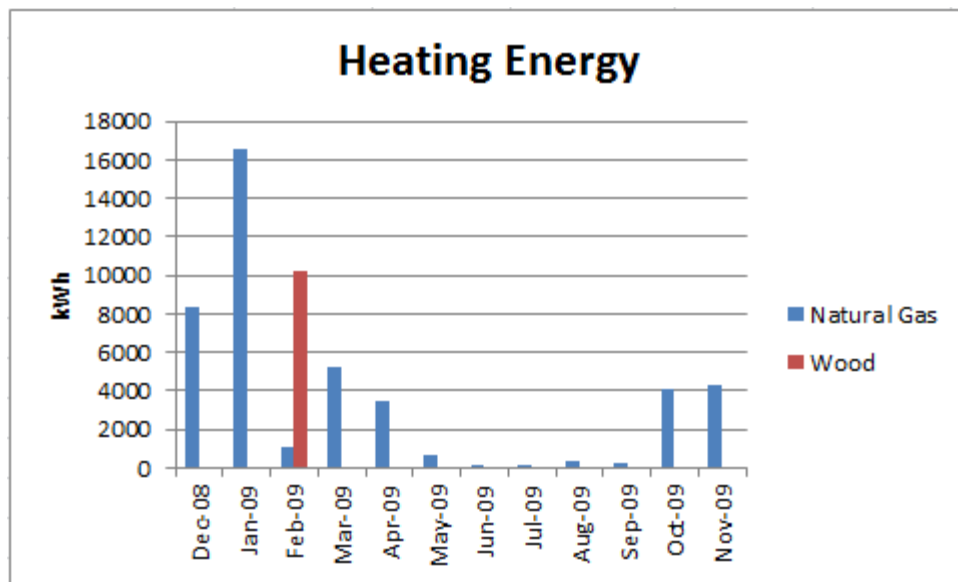

Figure 3.44. Two sets of data for each category
3. Insert a chart title, **Heating Energy** and a rotated Y axis label **kWh**. Observe that the legend performs a valuable function when more than one line, column, or bar is displayed by explaining the color codes used for each type of data, as shown in Figure 3.44.